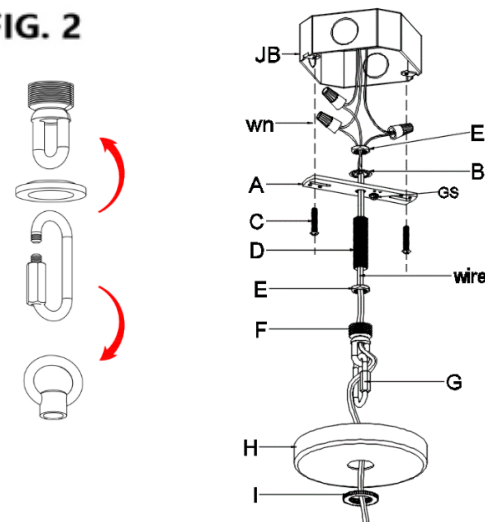

Fig. 3
CONNECTING THE WIRE (Fig. 3)
11. Connect the electrical wire as shown in Fig. 3, making sure that all the wire connectors are secured. If your junction box has a ground wire (green, or bare copper), connect fixture's ground wire to it. Otherwise, connect fixture's ground wire directly to crossbar using green screw provided.